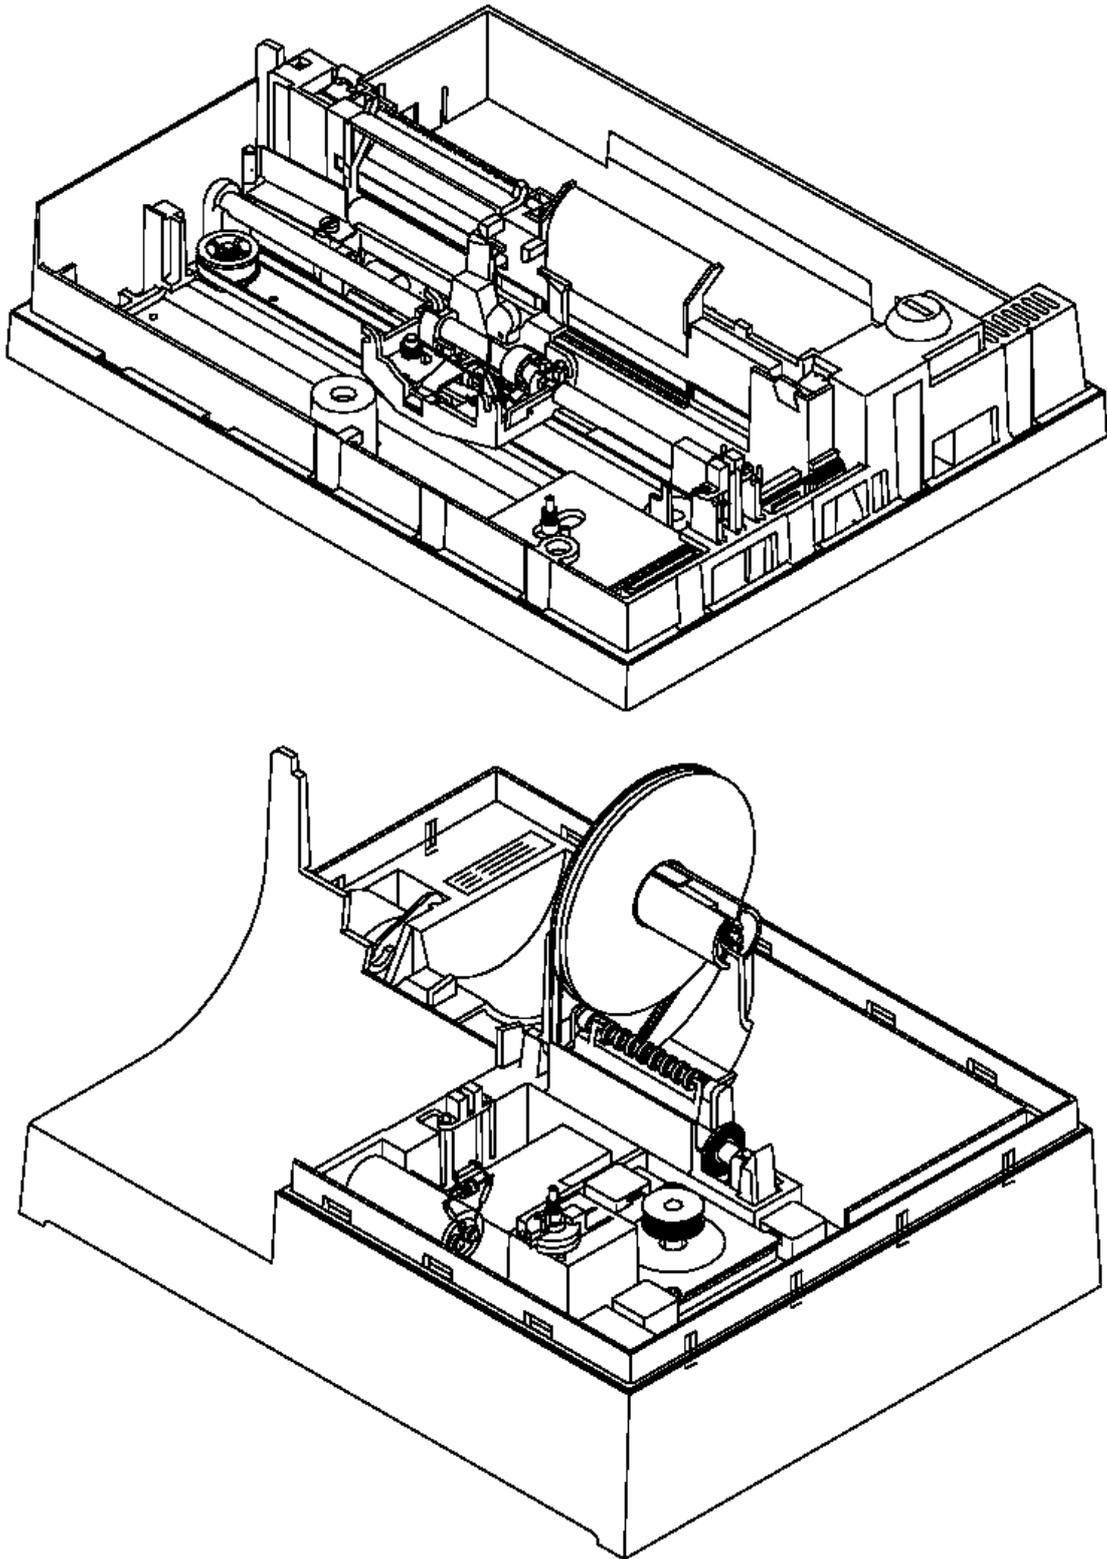

Figure E-16. Part 2. Connecting Upper and Lower Frame Assemblies
6. Align the upper frame assembly over the lower frame assembly so the two assemblies install together as shown in Figure E-16.